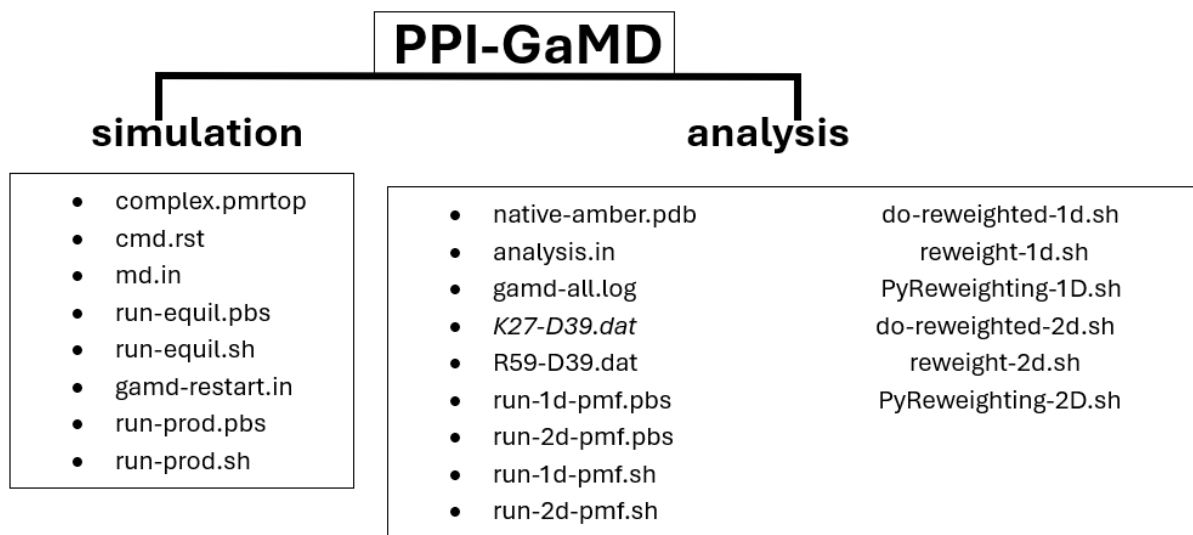

Figure 2. Directory structure of PPI-GaMD tutorial files.
- Files required for the PPI-GaMD tutorial can be downloaded at ppigamd.tar.bz2 (14MB) or copied from the following folder on the UNC cloud server: `/shared/data/ppigamd`. Further instructions on how to obtain these files will be discussed in subsequent sections (**Figure 2**).
As shown in **Figure. 2**, the `ppigamd` folder contains two sub-folders- simulation and analysis